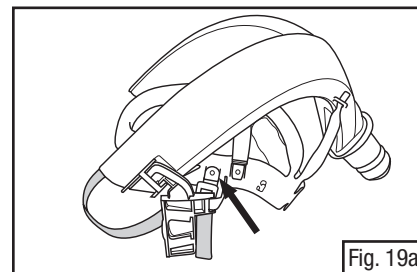

Fig. 19a
1. Locate the chin strap attachment points on the suspension. Fig. 19a shows an attached chin strap with the arrow pointing to the attachment catch on the suspension.